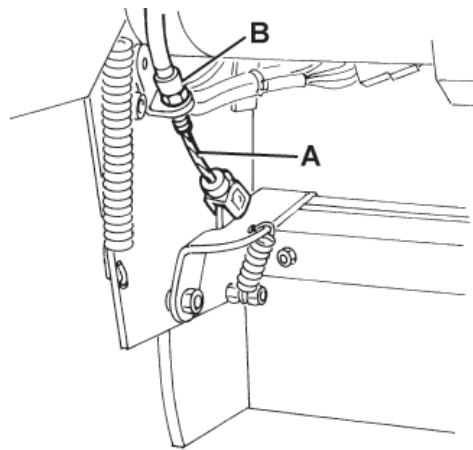

Figure 23
11. Press the front skirt lifting pedal (81) completely, and check that the front skirt lifts 5 cm approximately. Release the pedal and check that the skirt does not remain in an intermediate position but returns to its initial position. If necessary, adjust the skirt lifting cable (A, Fig. 23) with the adjuster (B) on the left front side of the skirt (for the front skirt control cable replacement, see the Service Manual).